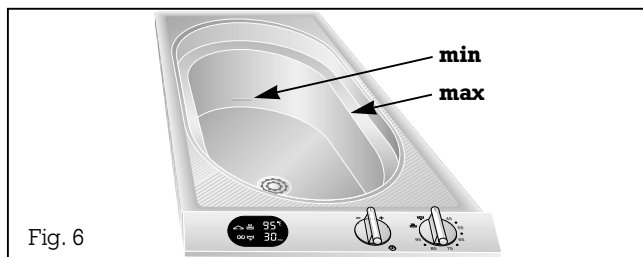

Fig. 6
- **Fill** the cooking basin with water or another cooking liquid. (Refer to the cooking table and recipe book for quantity information.) The cooking basin may be filled with water as maximum up to the foaming edge and as minimum down to the bottom marking (Fig. 6).